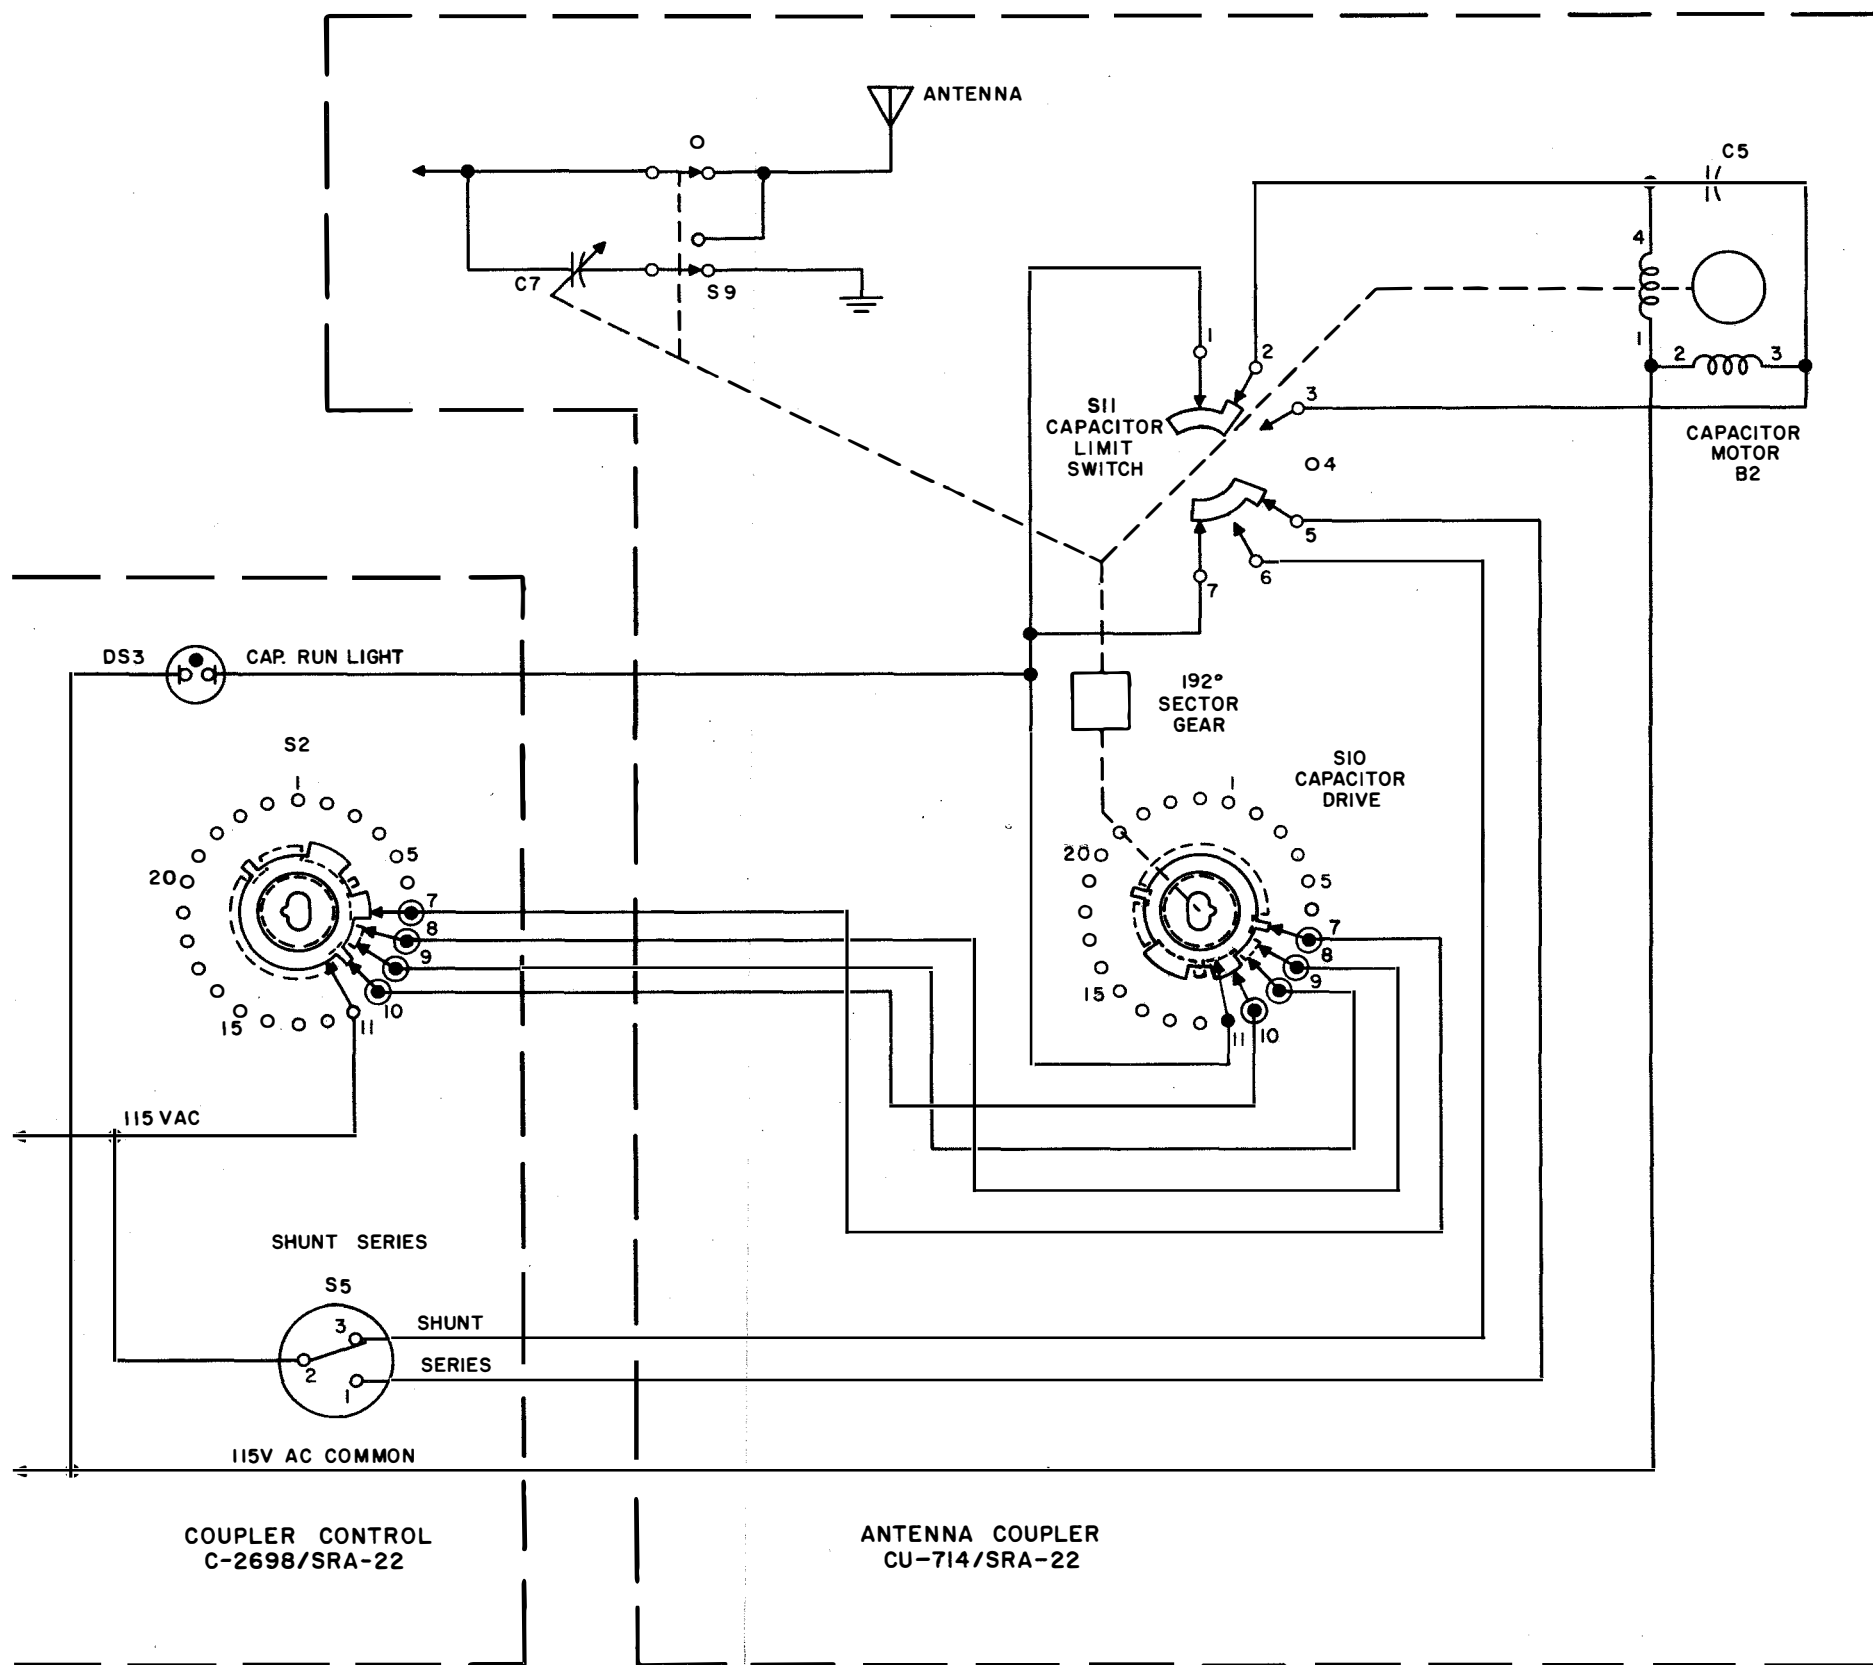

Figure 4-5. Capacitor Drive Circuit,
(1) CAPACITOR DRIVE CIRCUIT. - The CAPACITOR position switch, located in the control coupler unit, is a twelve-position wafer switch which drives the variable vacuum capacitor to a predesignated position. Refer to figure 4-5 for the simplified schematic diagram.